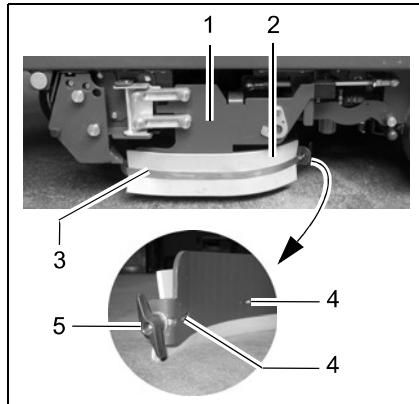

Fig. 33
The deflector (Fig. 33/1) must be fixed in its service position (refer to Section 2.3.1, Point 1).
1. Loosen the wing nut (Fig. 33/5) at the end of the deflector.
2. Slide the clamping rail (Fig. 33/3) in the vehicle's driving direction (forwards) until the clamping rail hooks (Fig. 33/4) are freed and the clamping rail (Fig. 33/3) can be removed away from the vehicle.
3. Remove the old rubber deflector strips (Fig. 33/2).
4. Position the new rubber deflector strips (Fig. 33/2) in place.
5. Mount the clamping rail (Fig. 33/3) from the outside and slide back by hand so that the clamping rail hooks (Fig. 33/4) engage.
Tighten the wing nut (Fig. 33/5) so that it engage in the thread of the clamping rail (Fig. 33/3) and tightens the clamping rail firmly (Fig. 33/3).